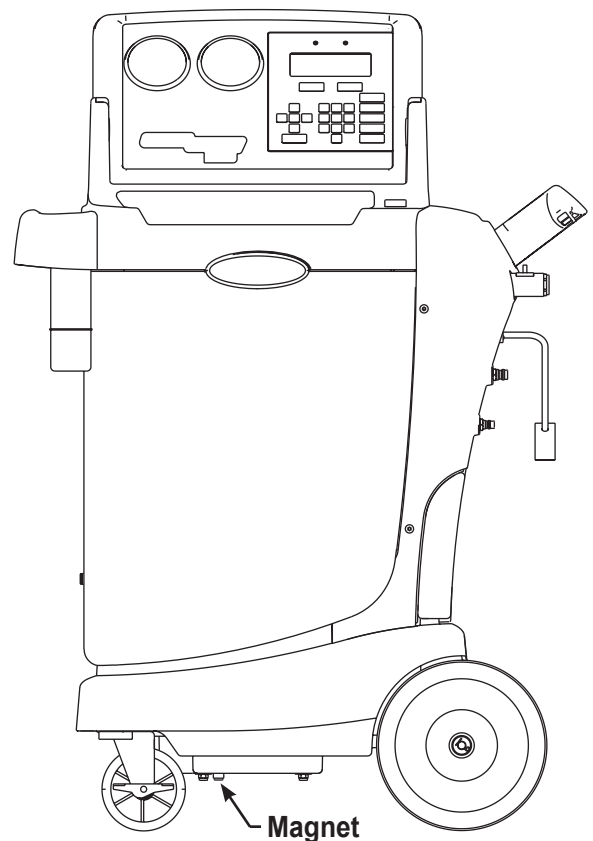

Figure 15
3. Refer to Figure 15, and verify the magnet on the bottom of the unit is clean. Press **START / YES**.